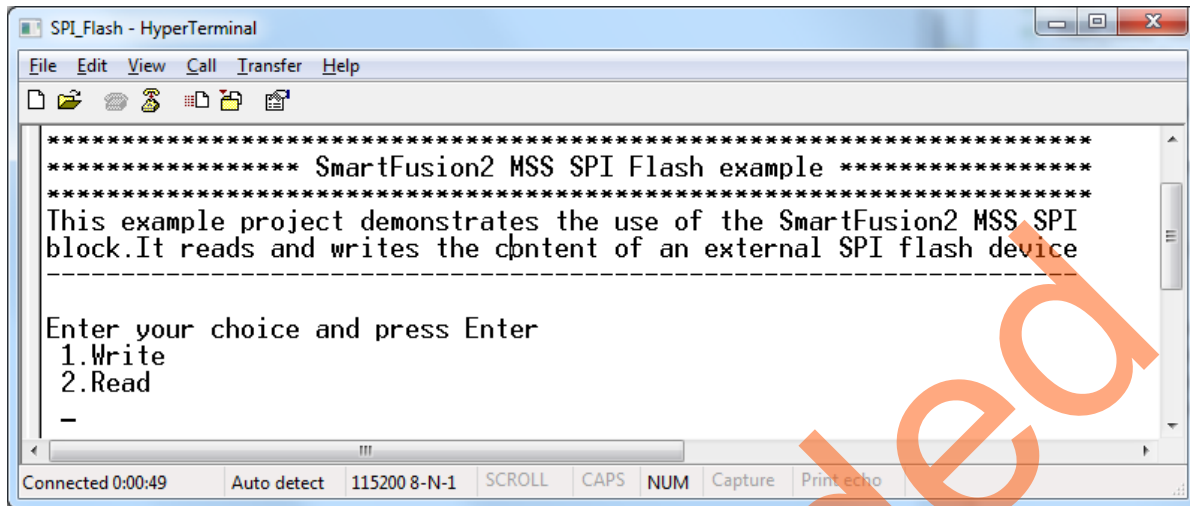

Figure 42 • HyperTerminal Window
4. On successful operation, the HyperTerminal window displays a message as shown in Figure 42.